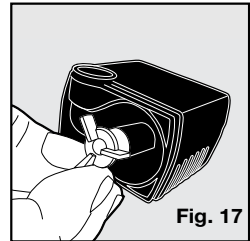

Fig. 17
4. Once the stator is removed, remove the impeller (white, 3-bladed propeller). The impeller is held in place by a magnet, simply use a fingernail to get underneath a blade and lift out (**Fig. 17**).